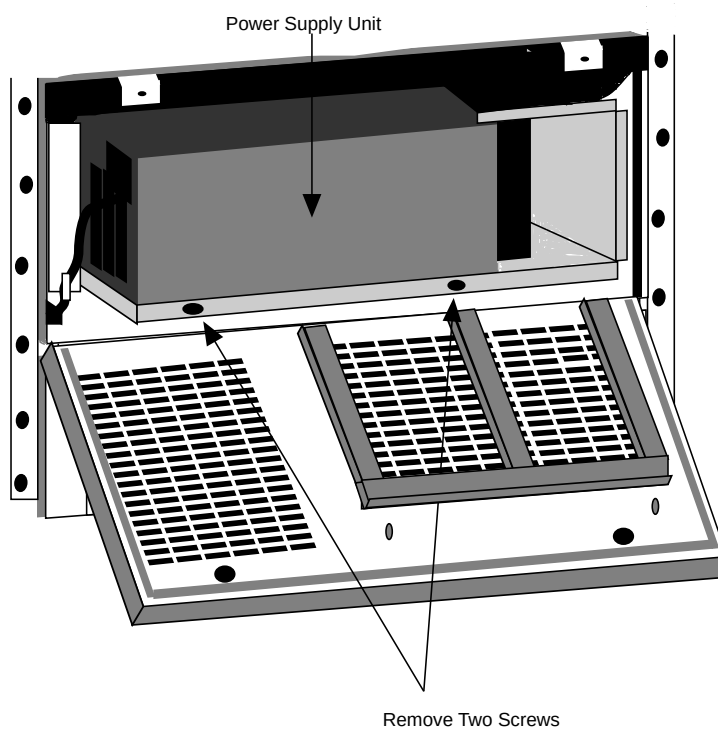

Figure B-2. Removing the Power Supply
3. Remove the two screws on the bottom of the power supply that secure it to the unit (Figure B-2).